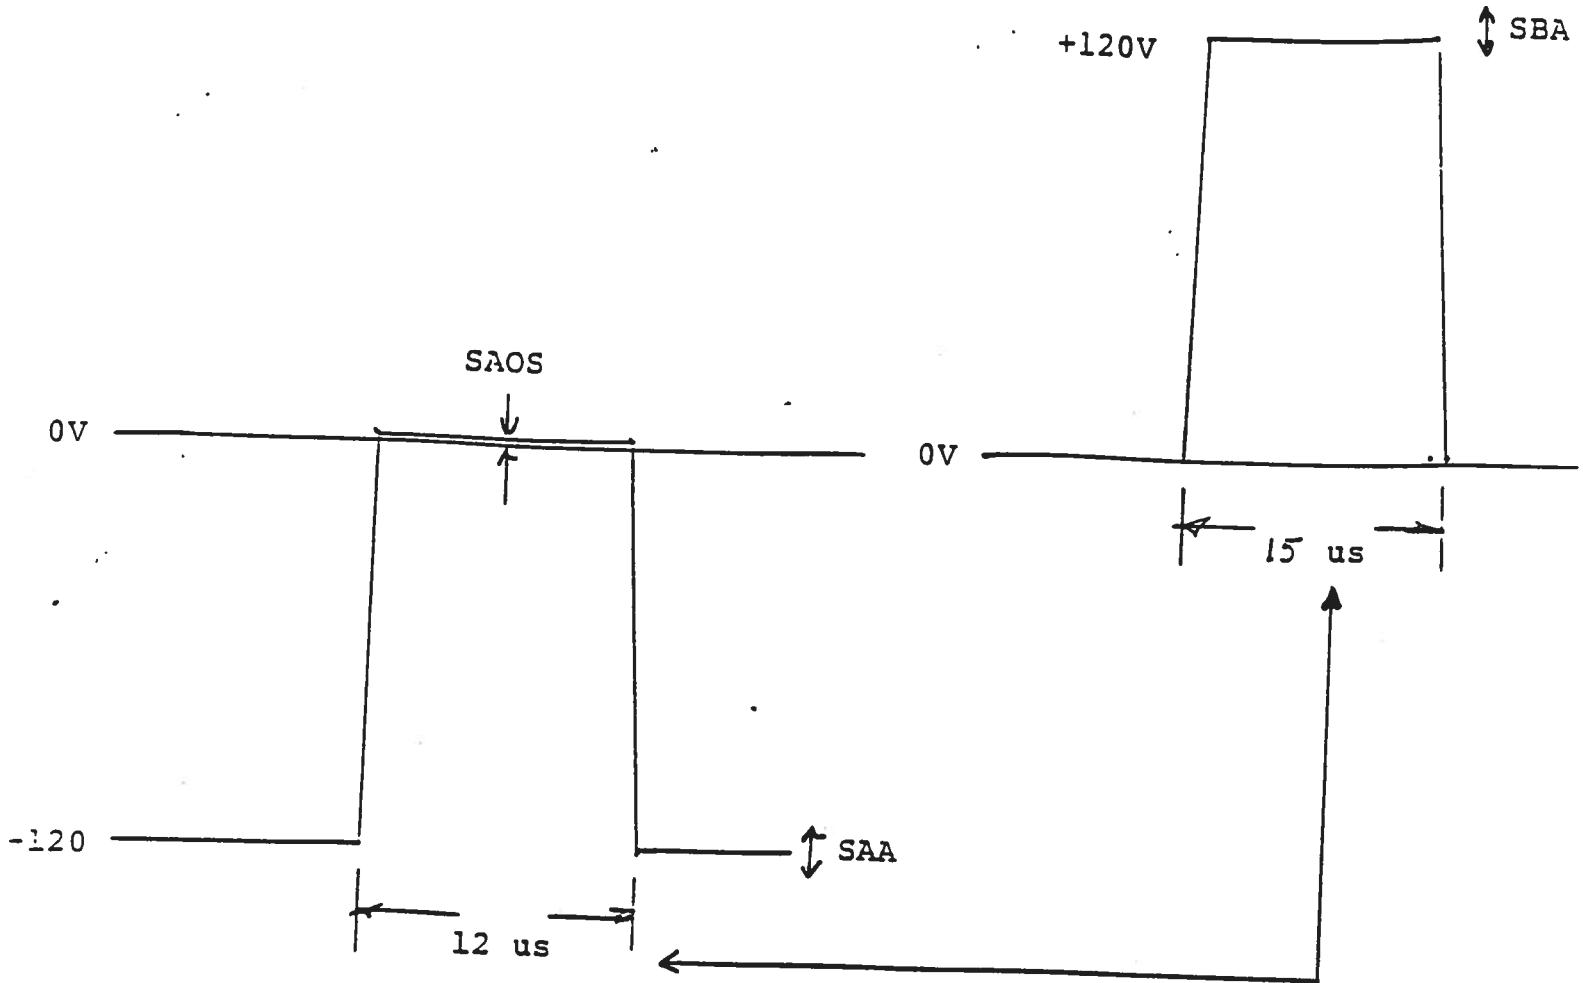

Fig. 5
- 5) With PIN A "LOW" and PIN C "HIGH", the OUT SMA connectors provide the waveforms shown in Fig. 5.
As with the TOF mode, the one turn SAA, SAOS or SBA locking pots (see Fig. 4) are provided in the interior of the instrument to achieve the amplitude adjustments shown in Fig. 5.
- 1) The OPERATE-SET-UP switch should be in the SET-UP position. With PIN A "LOW" and PIN C "LOW" the A OUT oscillates from the SAOS level (see Fig. 5) to a level which is variable from 0 to -15 using the AMP control. The oscillation rate is fixed at 1Hz. This function is controlled by an astable driver relay (which "clicks" at the 1 Hz rate). The unit will not enter the set-up mode unless both A and C are in the "LOW" level (but will "sound" whenever the switch is placed in the SET-UP position).
- (3) OPERATE-SET-UP Switch and POT control. To obtain the TOF, SALI, or DC outputs, the switch 3 may be in either position
- (4) For the SET-UP mode, the switch must be in the SET-UP position and PIN A "LOW" and PIN C "LOW". In this mode the A OUT oscillates from the SAOS level (see Fig. 5) to a level between 0 and -15 Volts at a 1 Hz rate. This function is controlled by an astable driver relay (which "clicks" at the 1 Hz rate). The amplitude is controlled by the AMP control 4.